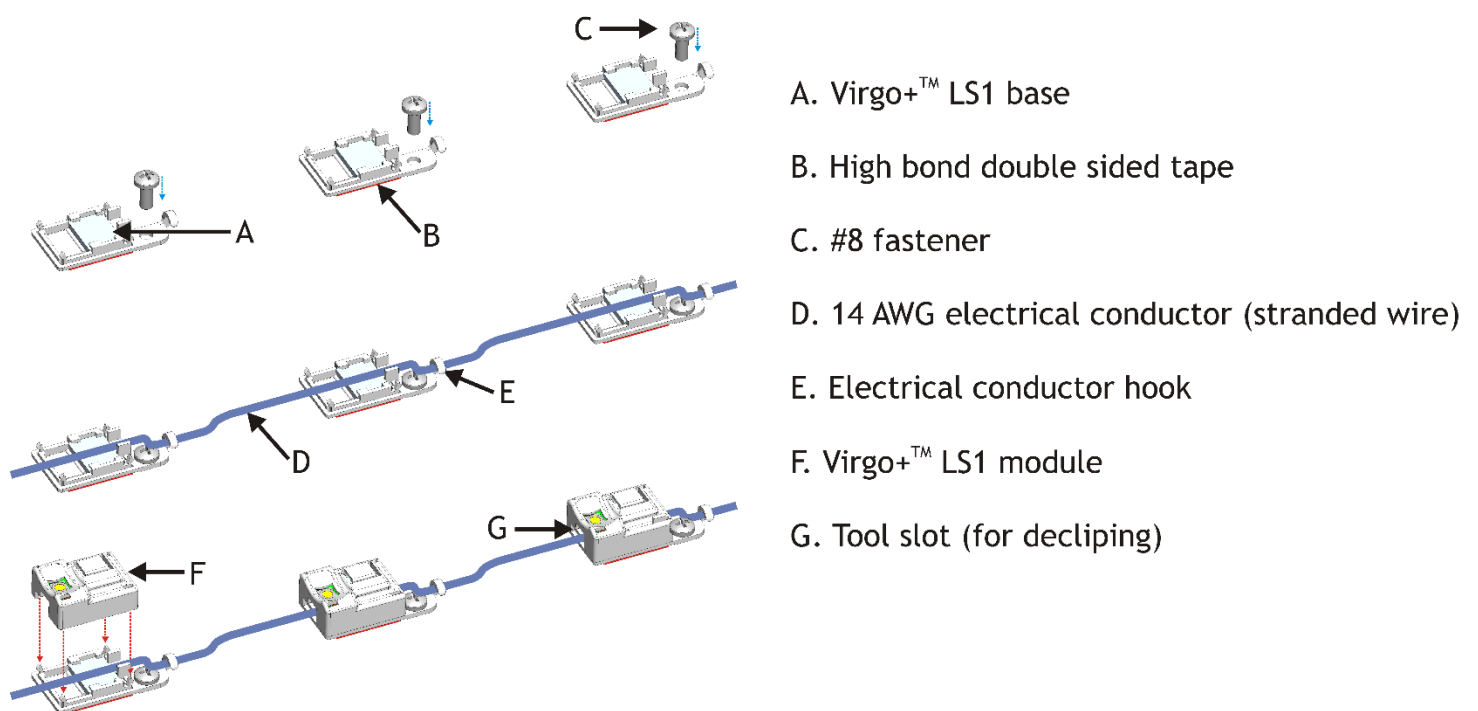

Figure 10: Installation of the Virgo+™ LS1 LED module
5. Insert the 14 AWG electrical conductor (stranded wire) in the Virgo+™ LS1 bases and snap on the top portion of the Virgo+™ LS1. All modules are to be wired in series (figure 10).